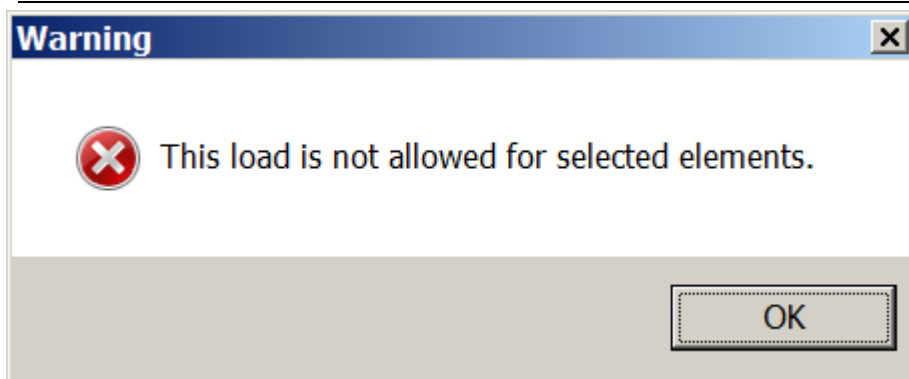

Figure 4.23 Warning message box
- ⇒ The **Warning** message box is displayed (see Fig.4.23). Click **OK**.